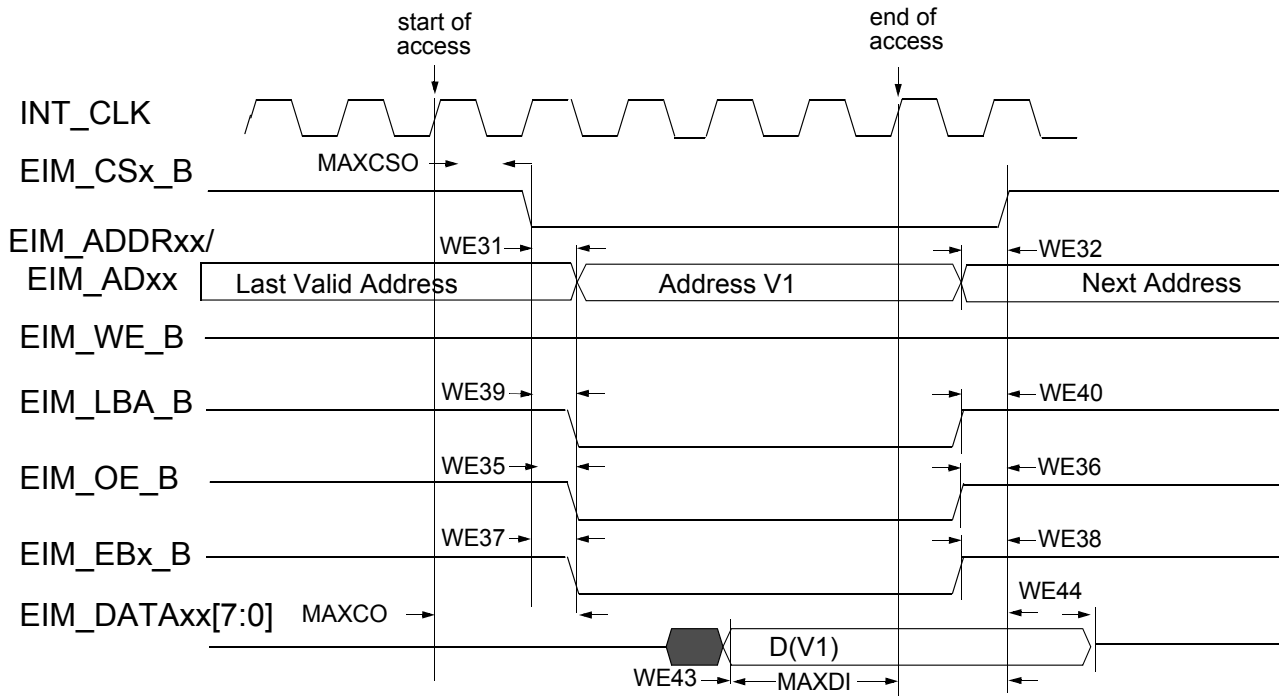
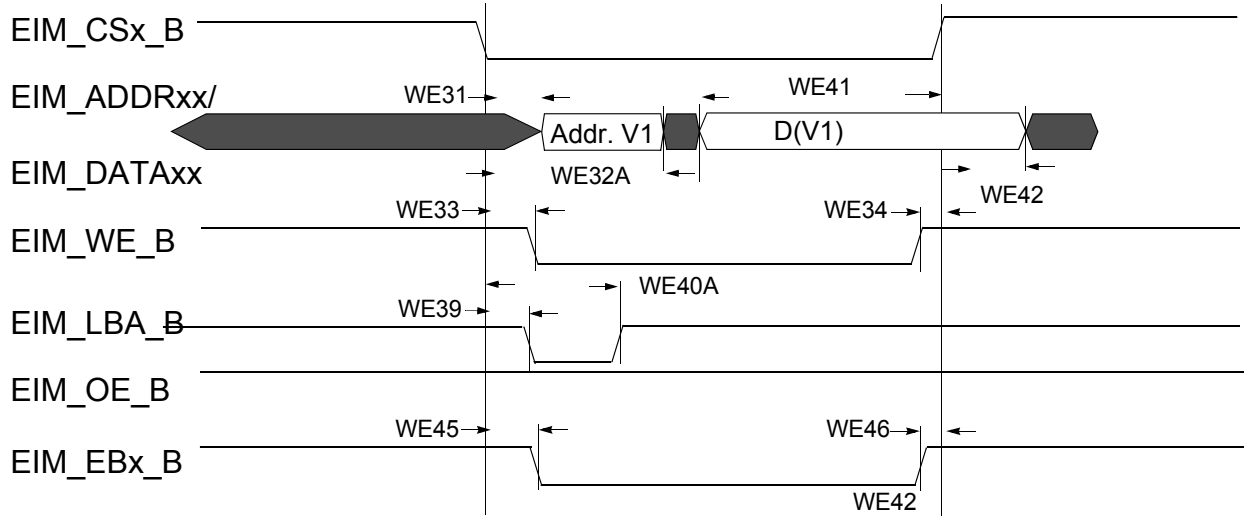
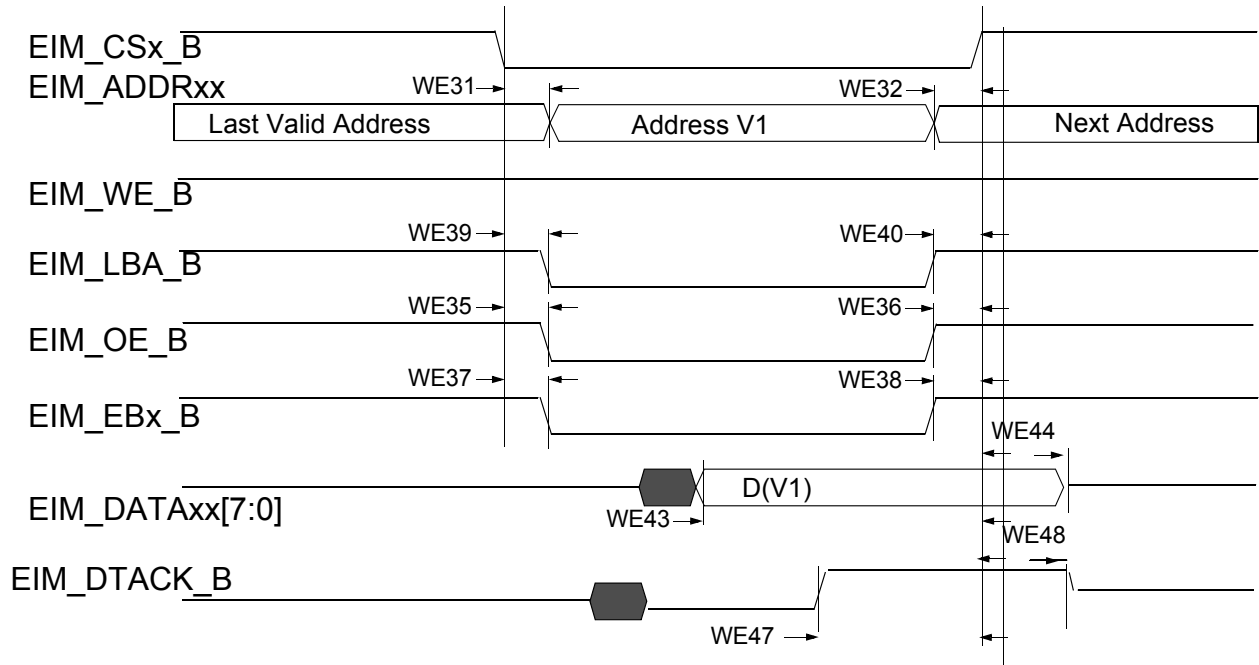

Figure 18. Asynchronous Memory Read Access (RWSC = 5)
Figure 21. Asynchronous A/D Muxed Write Access
Figure 22. DTACK Mode Read Access (DAP=0)
Figure 18 through Figure 22, and Table 39 help you determine timing parameters relative to the chip select (CS) state for asynchronous and DTACK EIM accesses with corresponding EIM bit fields and the timing parameters mentioned above.
Asynchronous read & write access length in cycles may vary from what is shown in Figure 18 through Figure 21 as RWSC, OEN and CSN is configured differently. See the *i.MX 6Solo/6DualLite Reference Manual (IMX6SDLRM)* for the EIM programming model.